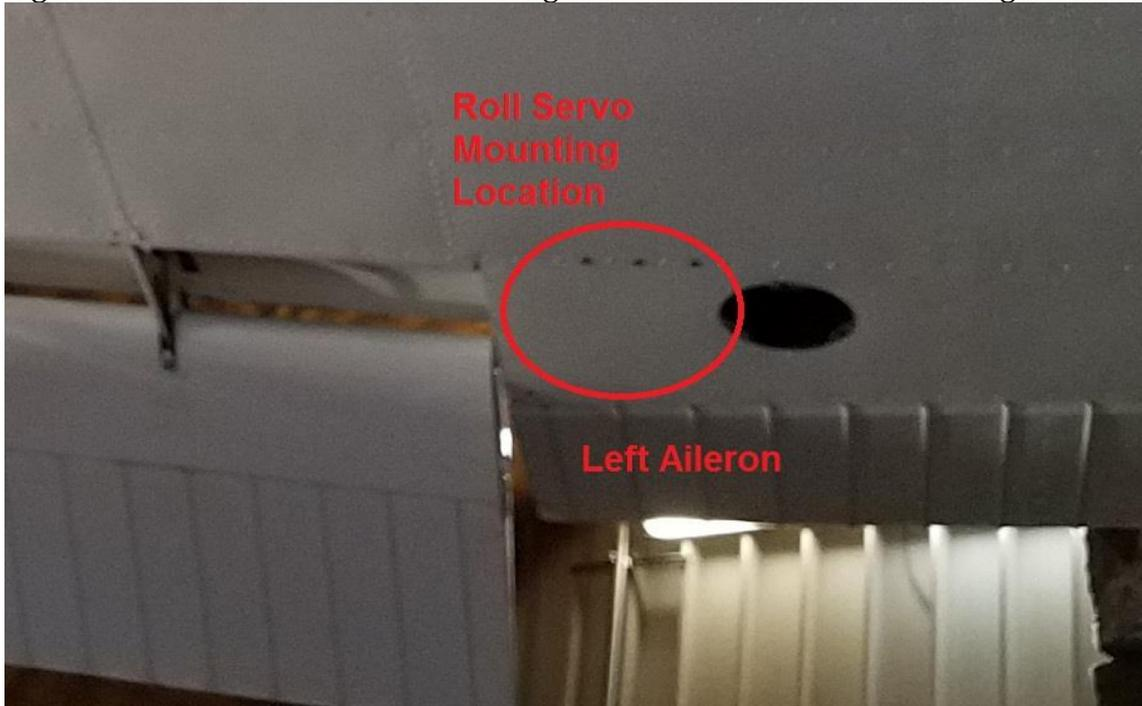

Figure 3-1
- 1.2. Figure 3-1 shows the roll servo mounting location from below the left wing.